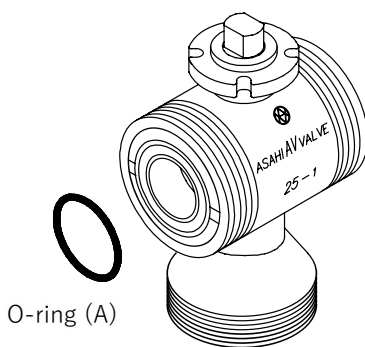

Figure 5.4-1
- 5) Confirm that the O-ring (A) is properly installed on the body (**Figure 5.4-1**).
- 6) Place the end connector against the body so that the O-ring (A) does not come off.